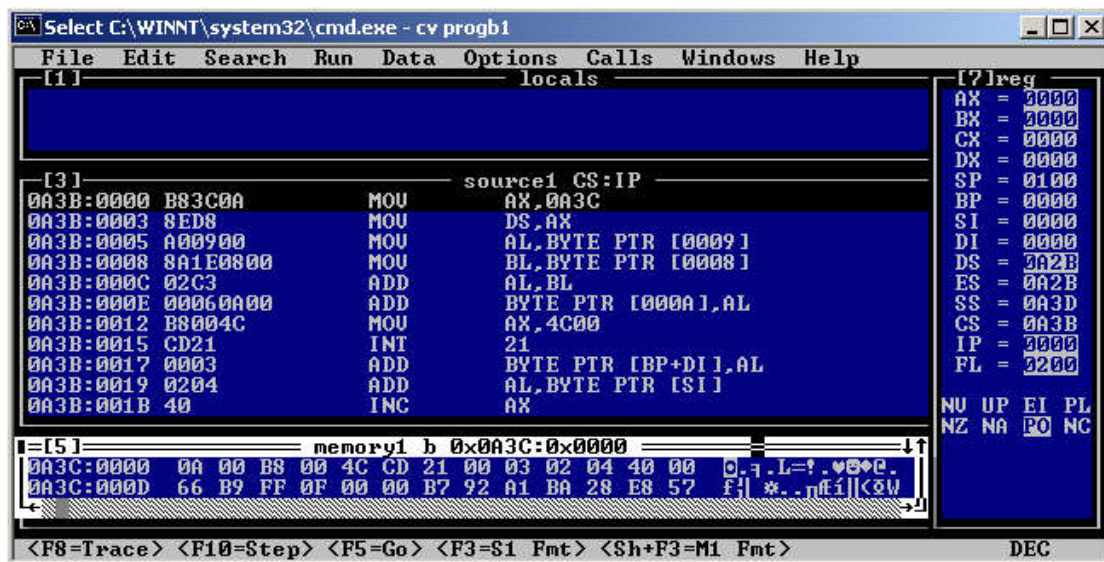

Fig 8: Data Segment with Correct Value.
Be careful to one important point here. At the beginning of the program, the DS register was loaded with the value “0A3C”, which means that the data of our program is in the segment 0A3C. In the data segment register (DS) however, the segment shown initially is “0A2B” which is a different segment. To show the correct segment, put the cursor on the segment value in the data segment window and write the new value (0A3C). The new screen will look like Fig 8.